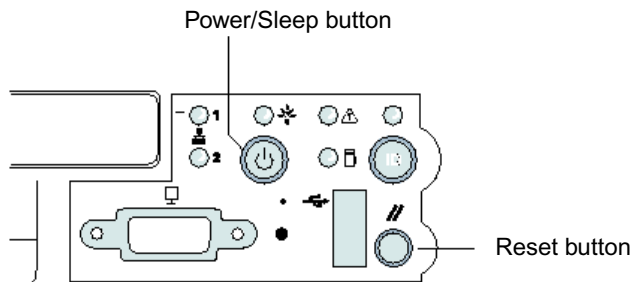

FIGURE 1-6 Sun Fire V60x Server Power and Reset Button Locations
- b. Press and release the power button on the right-front of the node. See FIGURE 1-6 for the location of the power button.